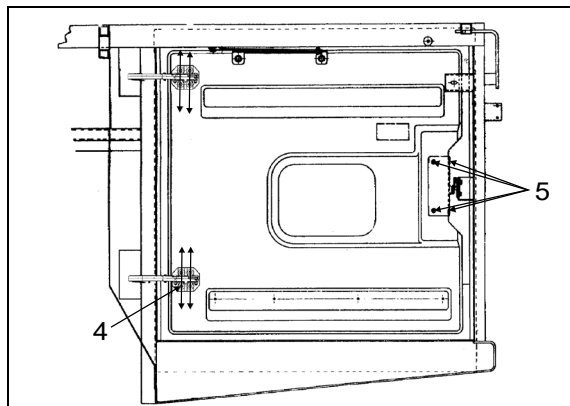

FIGURE 95: ENGINE COMPARTMENT R.H. DOOR
2. Loosen nut (1, Figure 95).
3. Move part (3, Figure 95) as shown in figure for "LEFT or RIGHT" adjustment.
4. Tighten nut (1, Figure 95).
5. Loosen nut (2, Figure 95).